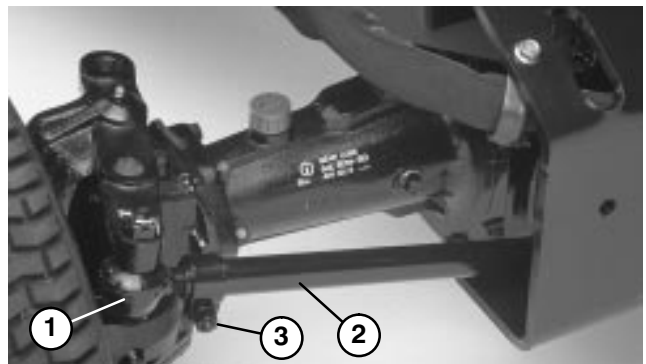

Figure 60
2. Remove cotter pin and nut securing one tie rod ball joint to mounting bracket on axle and disconnect ball joint from axle (Fig. 60).
3. Loosen screw on tie rod clamp (Fig. 60). Rotate ball joint in or out to adjust length of tie rod.